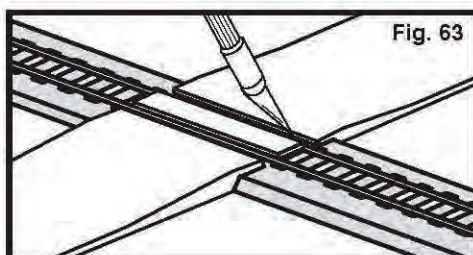

Fig. 63
7. Run a hobby knife along outside edges of rails several times to score a groove in the Smooth-It to allow clearance for train wheels (**Fig. 63**).